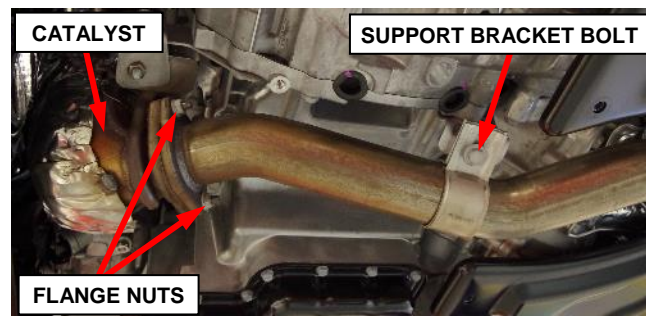

Figure 58 – Exhaust Crossunder Pipe
b. Remove the crossunder pipe center support bolt (Figure 58).
c. Remove and **DISCARD** the front crossunder pipe flange nuts securing the cross under pipe to the catalyst (Figure 58).